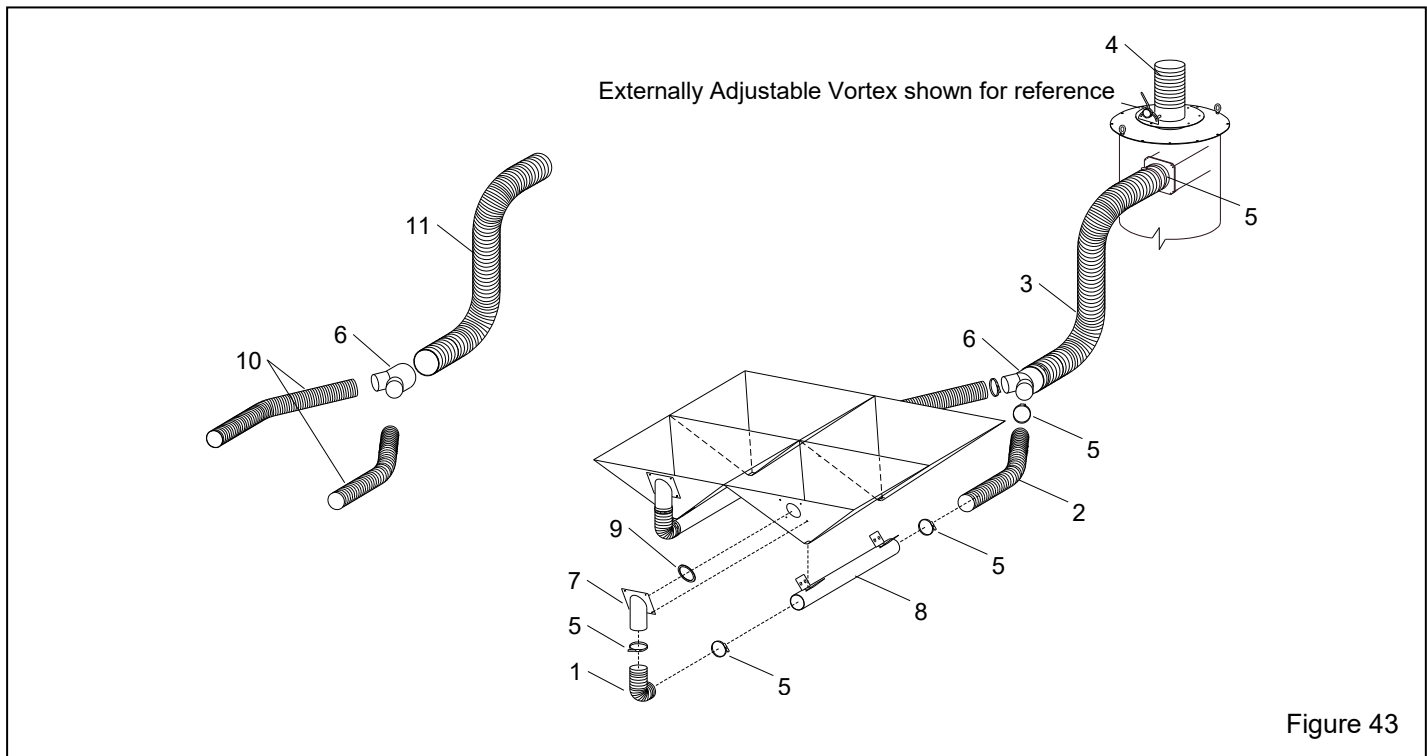

Figure 43
**9.10 Flex Hose, Wye Pipe, and Adaptors – Figure 43**